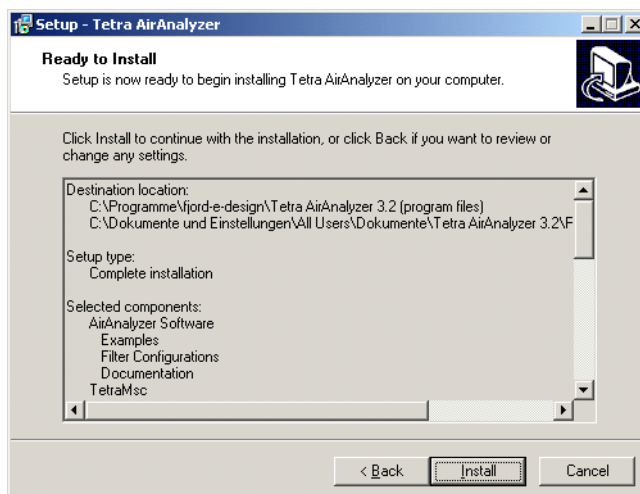

Figure 8 Confirmation of the installation
- 14 Click on **Next** to proceed to the next window shown in Figure 8.